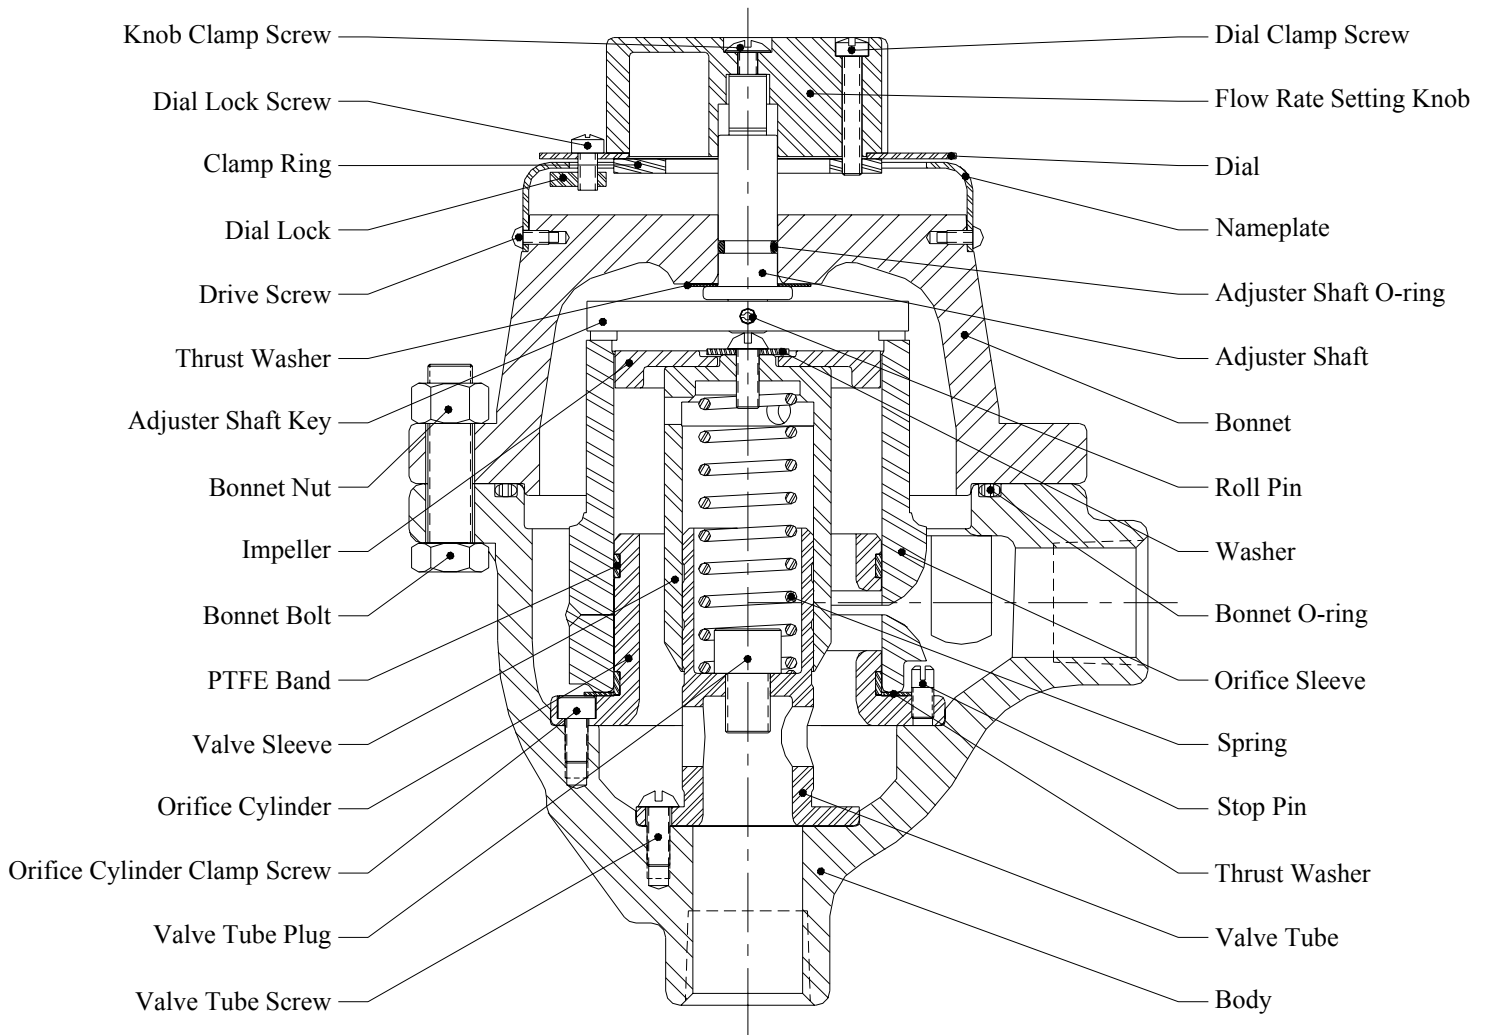

Figure 1
Note: If the flow rate setting knob (or the adjuster bar) does not turn, loosen the dial lock screw. (See fig. 1 & 2)
- d) Lower the bonnet slowly, at the same time turning the flow rate setting knob until the key on the end of the adjuster shaft fits into the slots in the orifice sleeve, and the shoulder on the lower face of the bonnet fits into the body. When properly assembled, bonnet will seat squarely on the body all the way around. (See fig. 1)
11. Replace body O-ring, then lower the bonnet slowly, at the same time turning the flow rate setting knob until the key on the end of the adjuster shaft fits into the slots in the orifice sleeve, and the shoulder on the lower face of the bonnet fits into the body. When properly assembled, bonnet will seat squarely on the body all the way around. (See fig. 1) See that the pointer is in front where set point can be read. Replace and tighten the bonnet bolts. (See fig. 4)